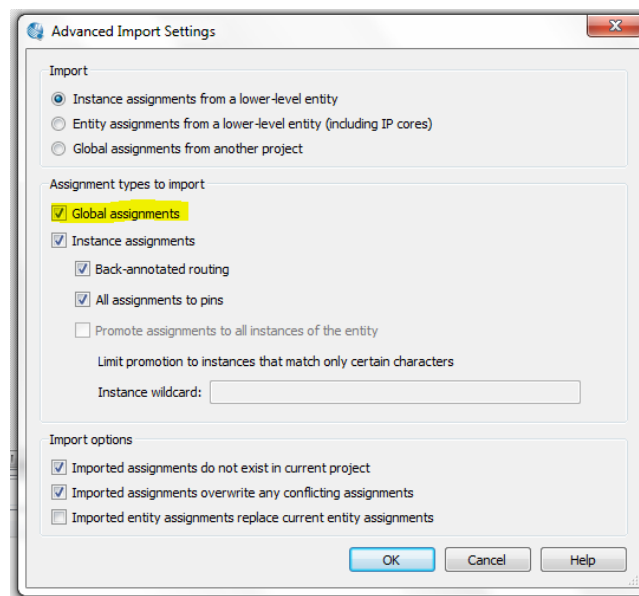

Figure 8: Import assignments advanced options menu
2. Then click **ADVANCED** → **check Global Assignments** → **Ok** as shown in figure 8